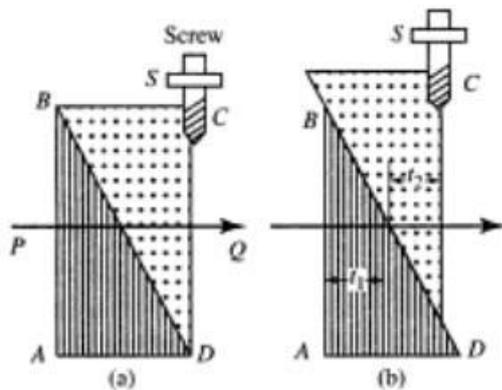

Fig. 4.32 Babinet compensator
**Construction** The Babinet compensator comprises of two small-angled wedge-shaped parts of quartz placed with their hypotenuses in contact to form a small rectangular block [see Fig. 4.32 (a)]. The optic axis of the left wedge is parallel to its refracting edge  $AB$  while the optic axis of the right wedge is perpendicular to the refracting edge  $CD$ . Thus, the optic axes of the two wedges are mutually perpendicular and also perpendicular to the incident beam  $PQ$ . One of the wedges is fixed while the other can be moved relative to the fixed wedge in its own plane by a micrometer screw  $S$ , as shown in Fig. 4.32 (b).